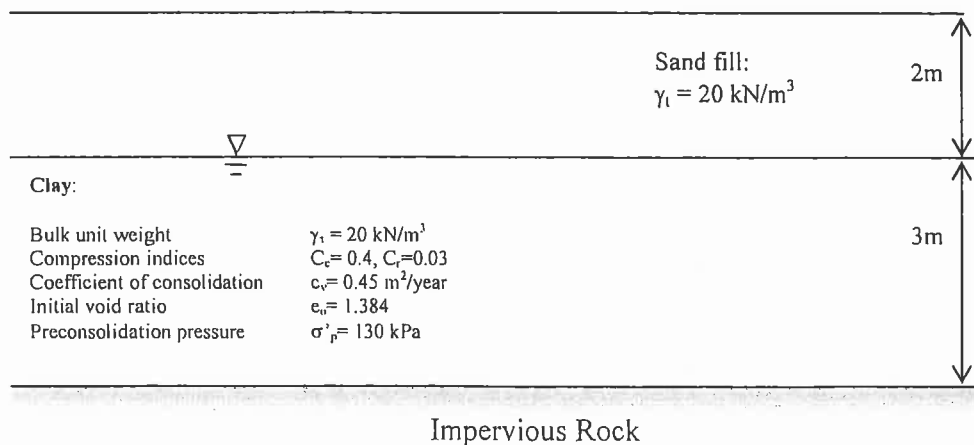

Figure Q.3
3. A  $5 \text{ m}$  by  $3 \text{ m}$  rectangular slab applies a load of  $10000 \text{ kN}$  at the surface of the sand fill illustrated on Figure Q.3.